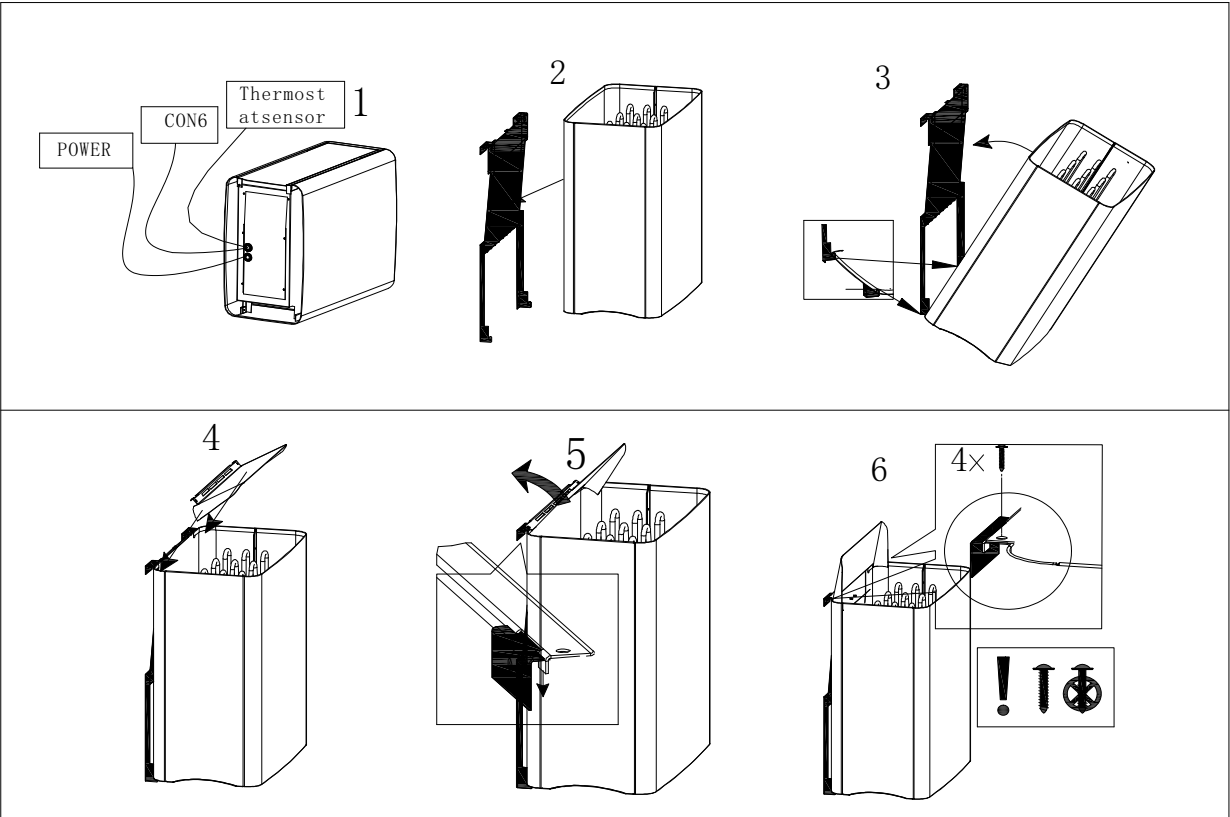

Figure 5. Securing the heater to the wall mount
1. Connect the power cable (fig. 5) to the heater.